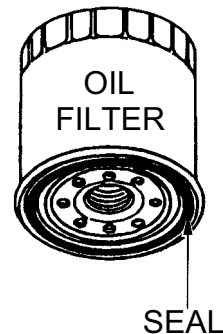

Figure 39. Oil Filter
1. Replace the engine oil filter (Figure 39) every 200 hours.